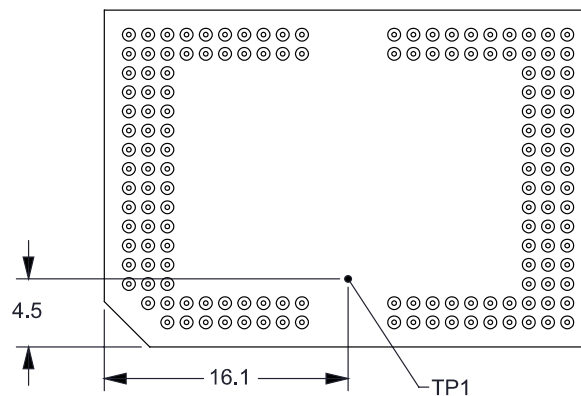

Figure 19. DMD Thermal Test Points
Relationship between array temperature and the reference ceramic temperature (thermocouple location TP1 in Figure 19) is provided by the following equations:
- $T_{\text{CERAMIC}}$  = measured ceramic temperature, TP1 location in Figure 19 (°C)
- $Q_{\text{ARRAY}}$  = total power, electrical plus absorbed, on the DMD array (W)
- $Q_{\text{ELECTRICAL}}$  = nominal electrical power dissipation by the DMD (W)